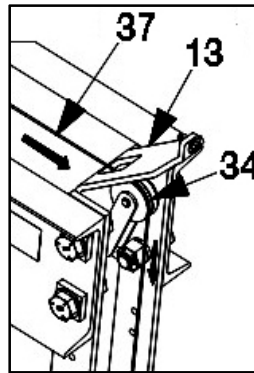

Fig. 17: Route bolster cable over top of press
19. Route the free end of the Bolster Cable [item #37] over the top of the press, through the cutout in the Cable Anchor Bracket [item #13] and over one of the pulleys on the Dual Sheave Mount Weldment [item #34] as shown in Fig. 17.